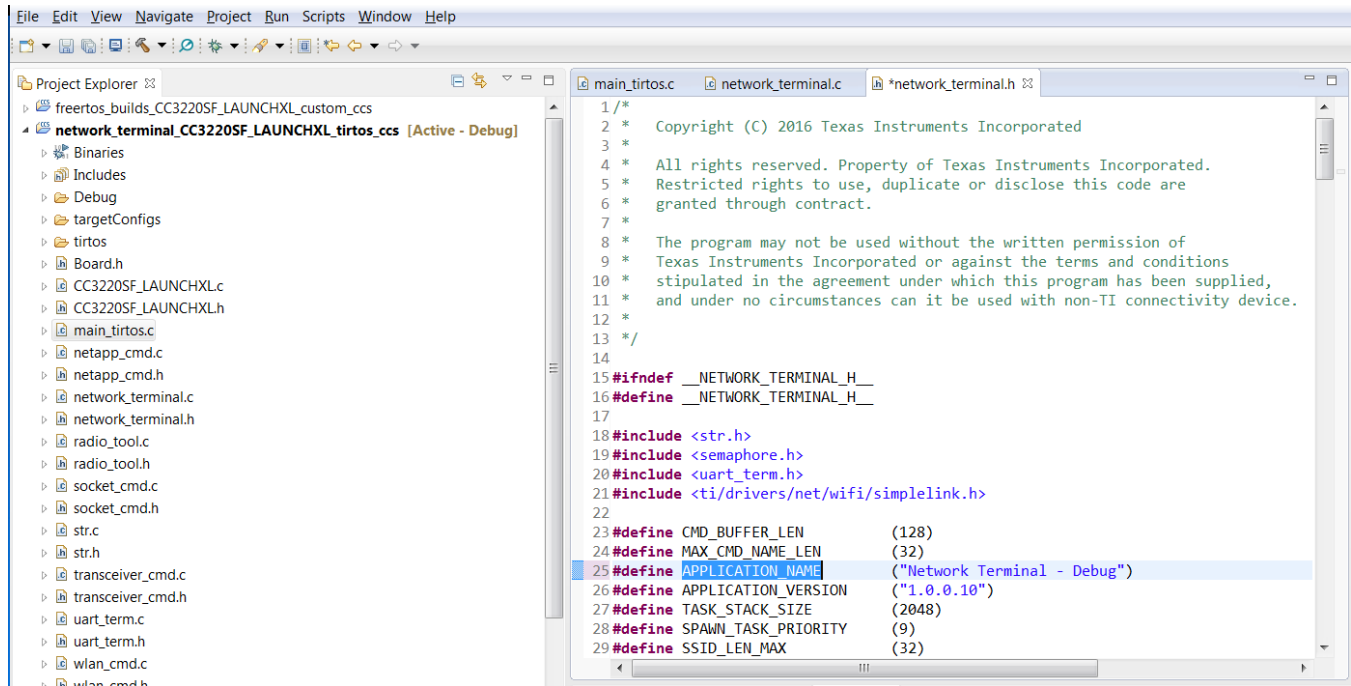

Figure 3-2. Application Name Definition
1. To differ the debug application from the one programmed to the flash, it is possible to make a simple change to the application name before it is rebuilt. The application name is defined in "network_terminal.h" - see in Figure 3-2. The change will be reflected in the first lines of the serial output.